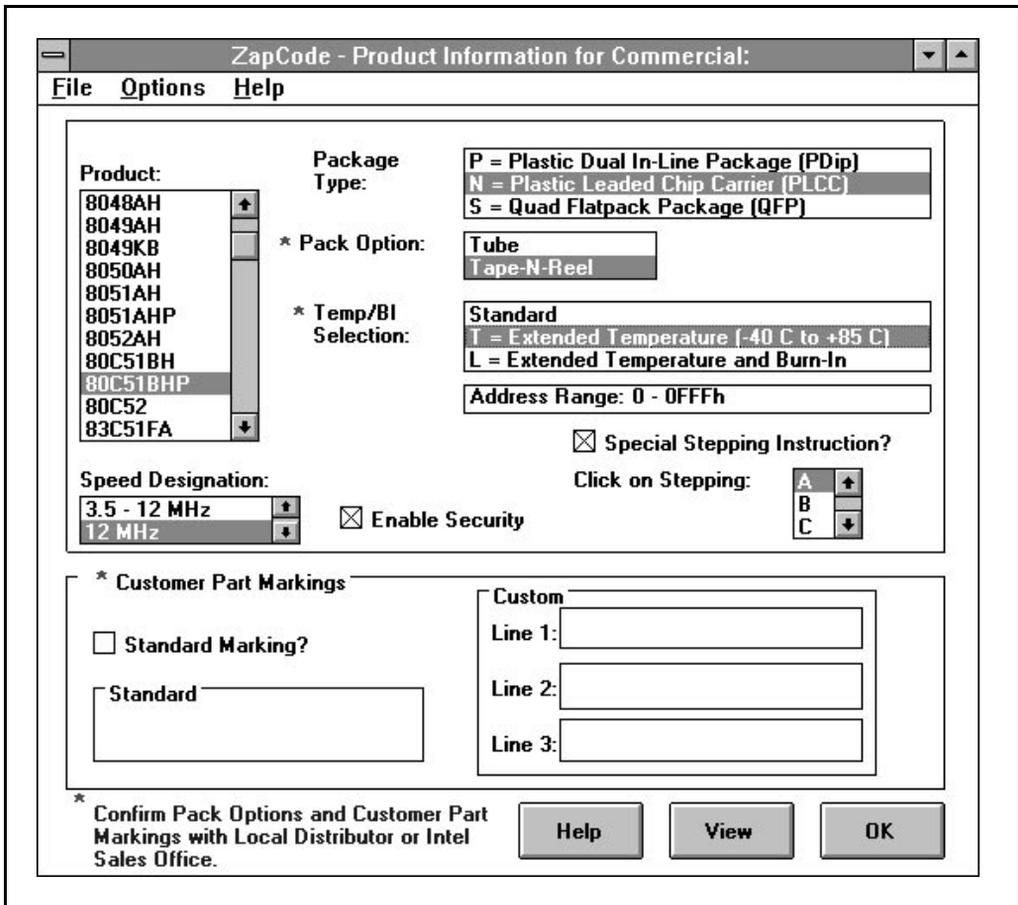

Figure 8-6. Example of a Product Information Screen
1. Click on the **Product Selection** button in the Main menu. The Product Information screen will be displayed (Figure 8-6).
- b. **Custom (Line 1/Line 2/Line 3):** Enter the markings you created in Chapter 5 for each line. Figure 8-6 shows the entry boxes that appear when **Standard Marking?** is not selected.